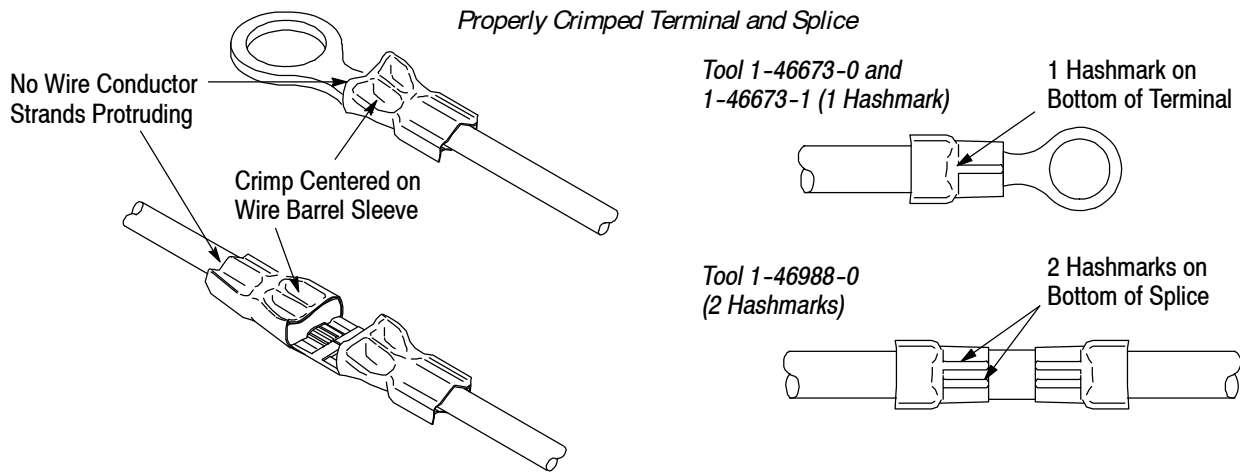

Figure 7
8. Refer to Section 5 and Figure 7 for crimp inspection.
Inspect crimped terminals and splices by checking the features described in Figure 7. Use only terminals or splices that meet the conditions shown in the "ACCEPT" column. "REJECT" terminations can be avoided through careful use of instructions in Section 4, and by performing regular head maintenance, as described in Section 6.